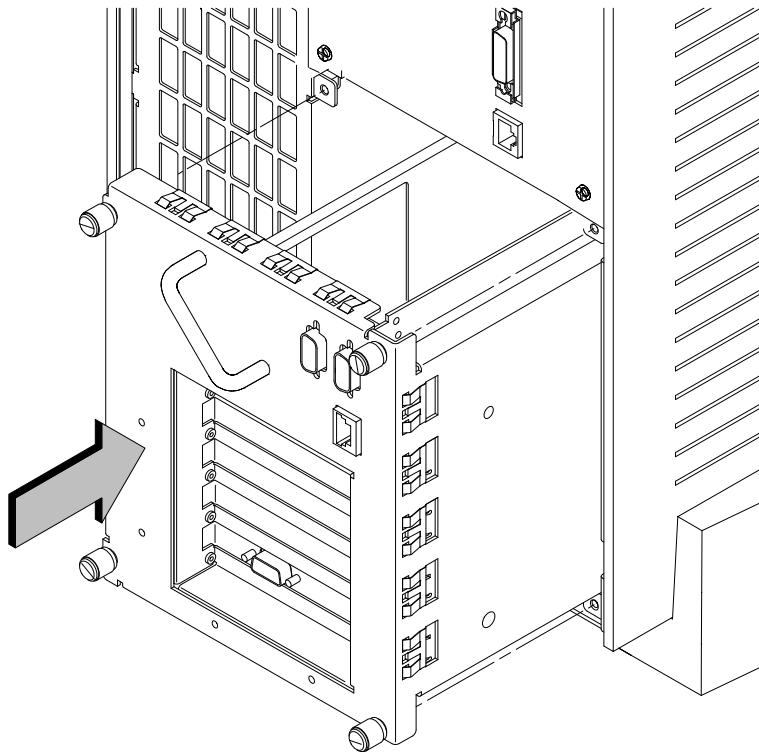

Figure A-39. Replacing EISA Assembly
- 9.** Slide the EISA Assembly into the system unit and secure it with the four captive screws. See Figure A-39.